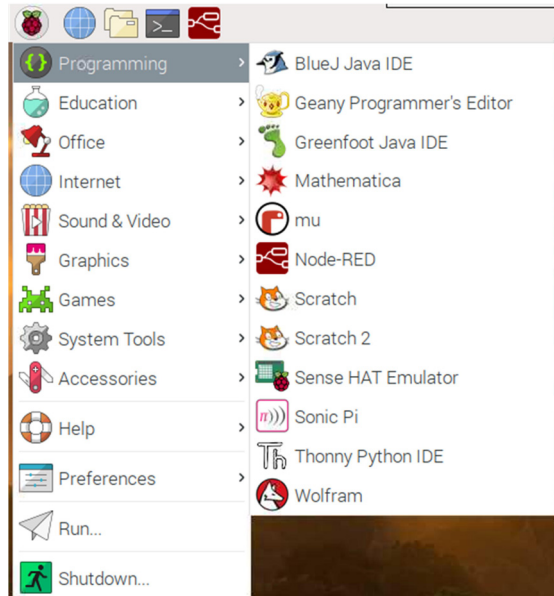

Figure 2.7 Select Thonny Python IDE
- Click the **Applications menu**, then **Programming**. Select **Thonny Python IDE** as shown in Figure 2.7